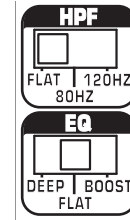

figure 1
2. Set the HPF and EQ switches to the Flat positions (figure 1).